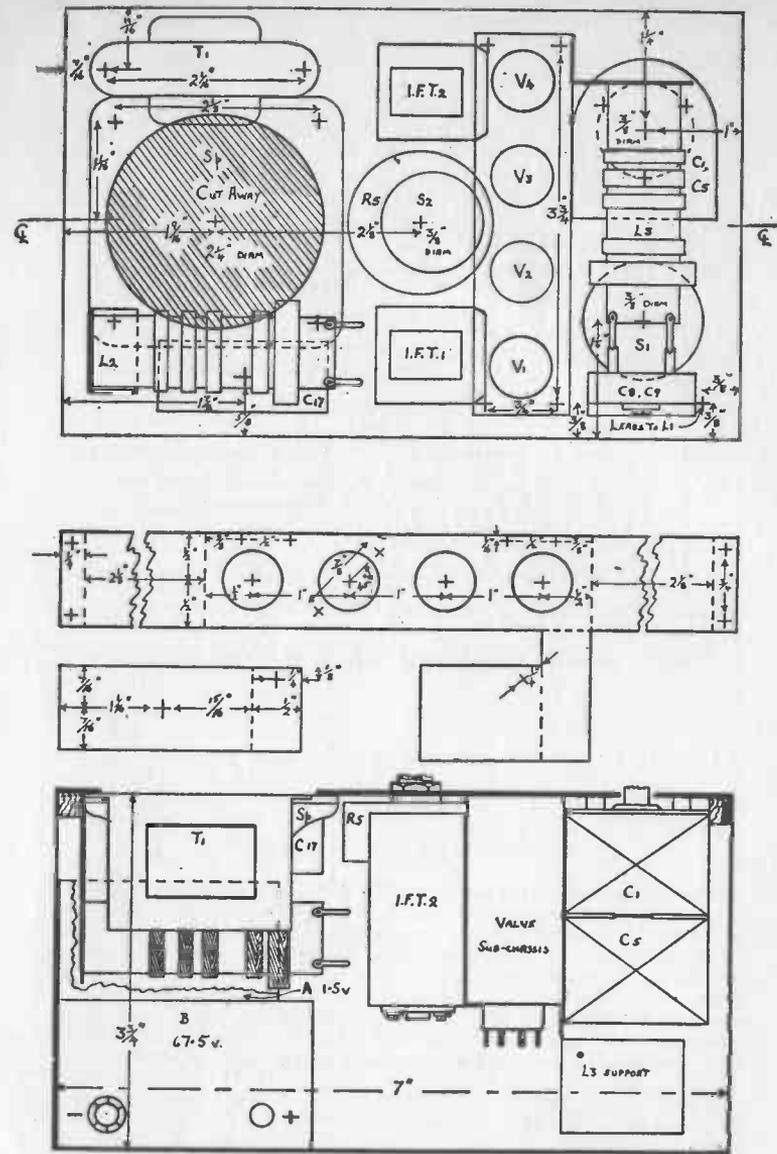

Fig. 12. Panel Dimensions, Bracket, Sub-Chassis and Side Constructional View of the "Two-Band Super"
- Panel, 7 in. x 4½ in. Valve sub-chassis, 2½ in. x 4 in. x 1 in. with coil lug. (Fig. 12). Coil bracket, 2 in. x ½ in. with ½ in. foot.
The panel, sub-chassis and coil bracket should be cut from stout aluminium, and drilled as shown in Fig. 12, the sub-chassis being drilled and punched before being separated from the main sheet of metal. It will be seen that there are some changes in the panel arrangement for this receiver in order to incorporate all the components as neatly as possible; the main tuner and the wavechange switch are in line at one end of the panel with the oscillator coil supported below the main tuner. This coil is mounted on an extension of the valve sub-chassis, this extension being bent down and round to make a firm bracket. Note that for clarity the fixing holes for only one valve position are shown, these holes being duplicated at the other valve positions.
Some care must be taken in arranging the oscillator trimmers to lie against the body or former of L₃, for the double padder is also supported by the contact lugs of this coil as shown in the panel view of Fig. 12. The lugs of the double padder, identified by coloured spots as in the components list, when a Messrs. Walter Instruments component is employed, are slightly bent and sweated to tags Nos. 1 and 2 of L₃, the other two lugs of the padder being directly earthed to the nearest earthed soldering tag on the valve sub-chassis by a length of stout wire, e.g. S.W.G. 18 tinned copper wire. This earthing lead assists in keeping the whole oscillator coil assembly firm and rigid.
With the wiring carefully checked the receiver can have the batteries connected in—these are clamped to the bottom of the case with the L.T. cell above the H.T. battery as shown in Fig. 12. The cell is positioned to fit between the curve of the loudspeaker and the output transformer, and the leads to the batteries are lightly soldered to the contacts. Switch on the receiver, turning R₅ to the position giving maximum volume, then lightly tap pin 4, followed by pin 6, on the V₁ valveholder, using a screwdriver blade held in the hand. When these pins are touched, with the set switched to either wave band, there should be a distinct click in the loudspeaker, indicating that the oscillator is functioning correctly. If no clicks can be heard switch off the set and check the wiring and components.